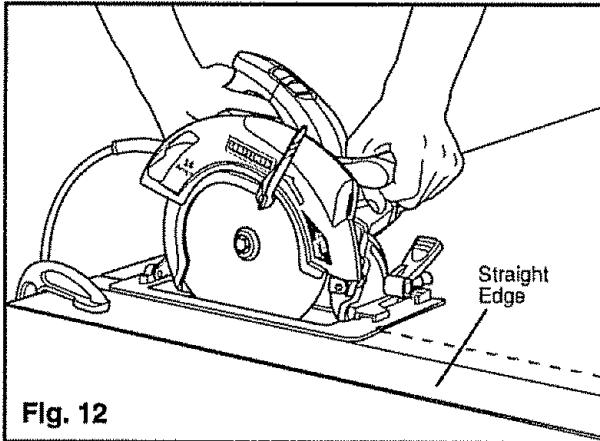

Fig. 12
USING A STRAIGHT EDGE (Fig. 12)
2. Carefully guide the saw along the straight edge for a straight rip cut (see Fig. 12).